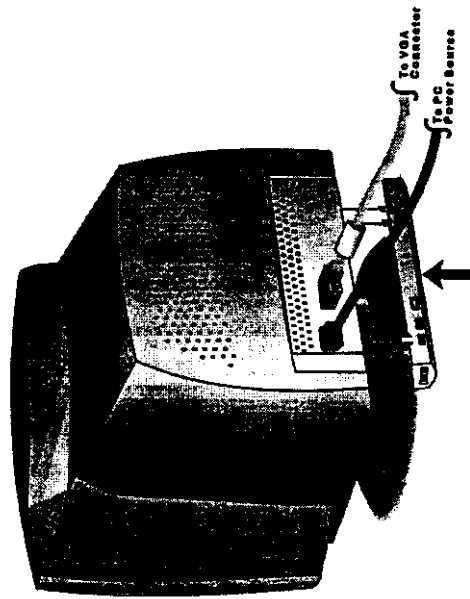

Figure 7: Connecting the "hub function only" USB Hub
- Align the four USB Hub tabs with the four slots locate in the rear on the bottom of the Monitor. See Figure 7.